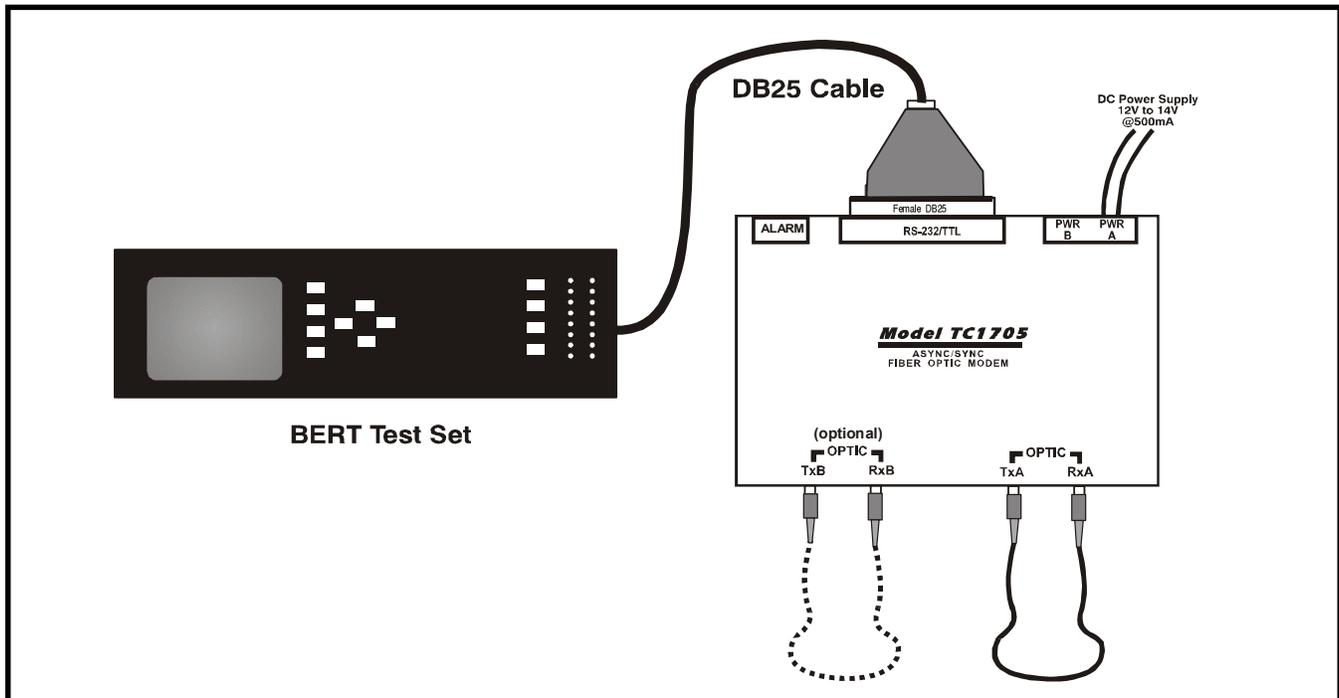

Figure 7. Local Optic Loopback Test Connection Diagram
1. Set up the bench test as illustrated in Figure 7 on the following page.